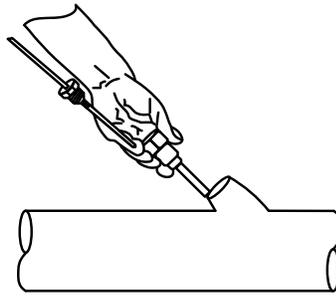

Figure 19: Typical RTD installation
1. Insert the RTD probe into the thermowell to determine the depth setting for the probe spring (Figure 19).